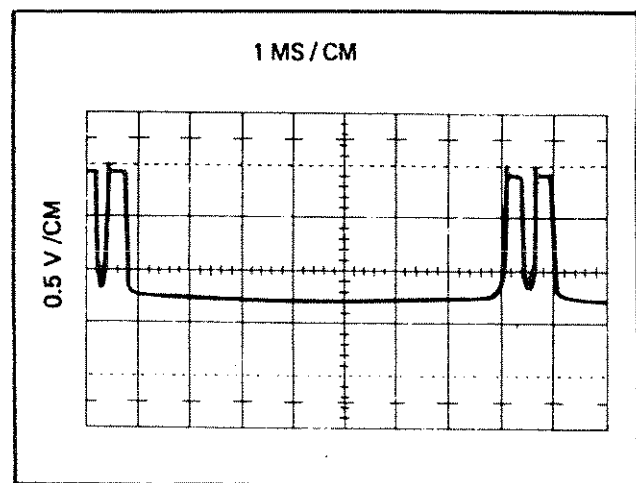

Figure 4-10. PRE - REGULATOR Q1, WAVEFORM ON STDBY/RESET
- e. Set the readout dials to 50.0000 and the POWER switch to STDBY/RESET. The oscilloscope waveform should appear as shown in Figure 4-10.